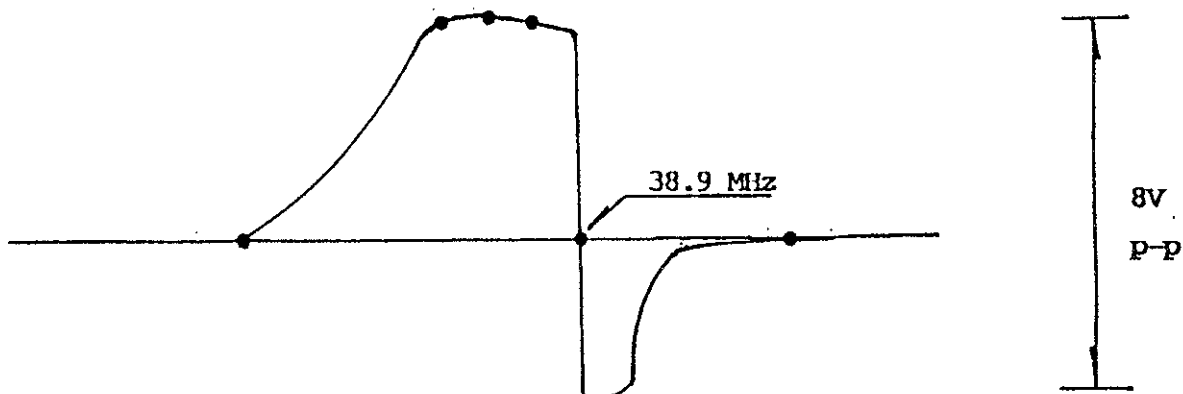

Fig. 2
B. Tank Coil Alignment Step (See Fig. 2)
- (vii) Adjust T101 to obtain the waveform as Fig.2.